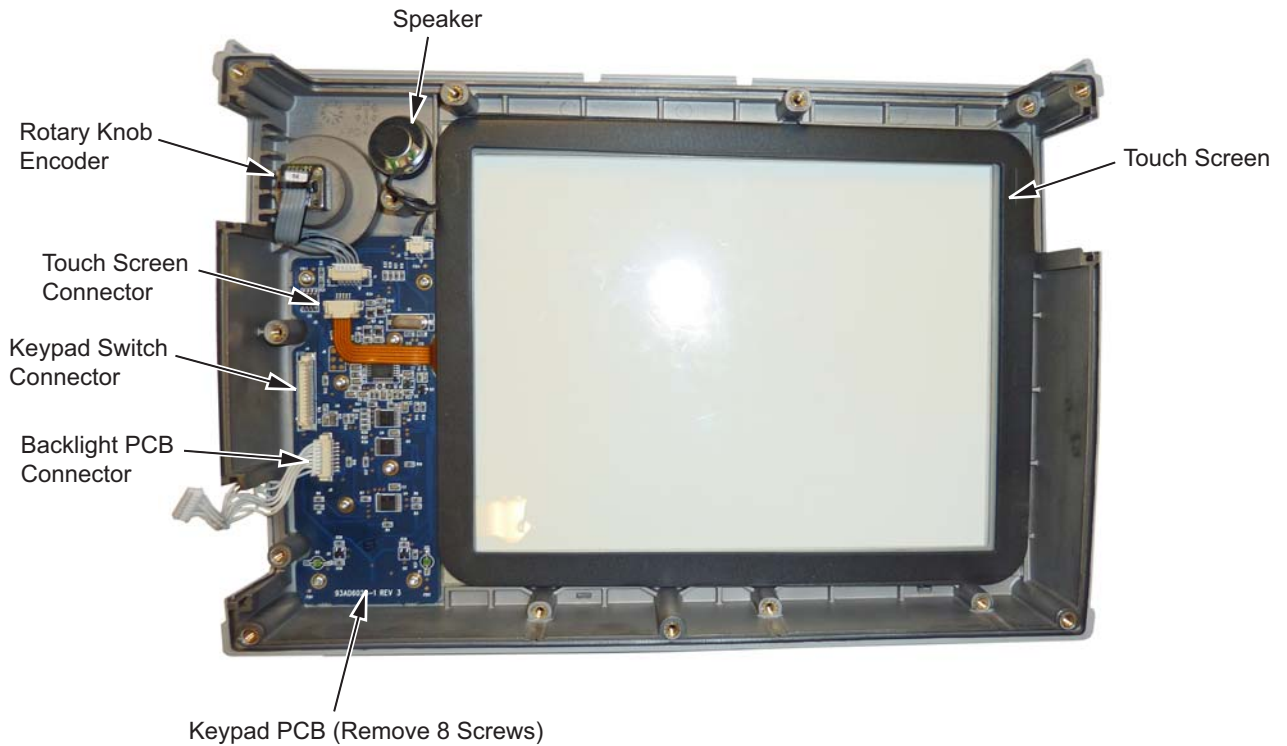

Figure 7-14. Front Panel Keypad Bezel
3. Remove the 8 screws and the cable connectors to remove the Keypad PCB (Figure 7-14). The Rubber Keypad is located under the Keypad PCB.